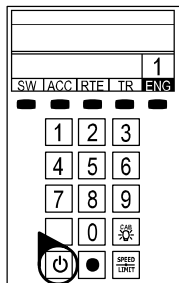

Figure 5. LEGACY start-up
6. Press the Start Up key on your LEGACY CAB-2 Remote, shown in Figure 5. Then, throttle up and move 'em out! Your engine sound will start up, and the locomotive-specific touch screen buttons will populate the remote. For more information on operating your